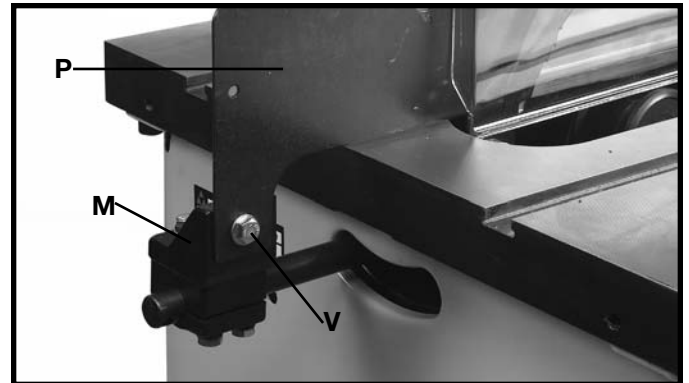

Fig. 24
9. Insert the front end of splitter (P) Fig. 23, inside the splitter mounting bracket behind splitter fastener plate and screw (C). Push splitter down as far as possible, making certain the bottom edge of splitter (P) is parallel with the table surface. Tighten screw (C). Fasten splitter and blade guard assembly (P) Fig. 24, to bracket (M) using a 5/16-18x1" hex head screw (V) and 5/16" flat washer.